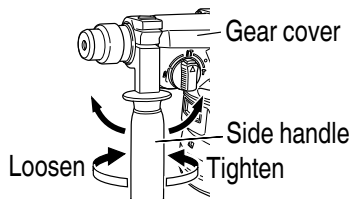

Fig. 10
2. Attaching the side handle (**Fig. 10**)